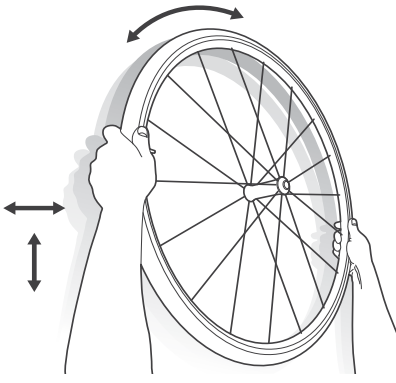

Figure 26. Spin/shake the wheel
- While holding the wheel, rock the wheel back and forth and spin to spread the sealant around the inside of the tire (Figure 26).